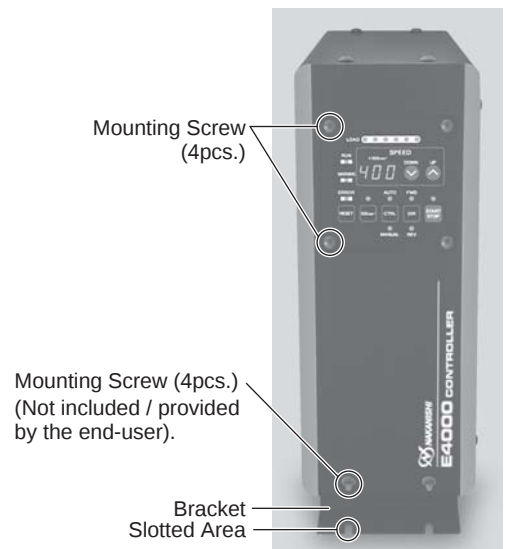

Fig. 13 Control Panel vertical position.
- ③ **Attach the CONTROLLER (Bracket's Slotted Area) to the machine using the mounting screws (8 pcs. not included / provided by the end-user). (Fig. 13).**
- ④ If " Side Surface Mounting " of the CONTROLLER is required.